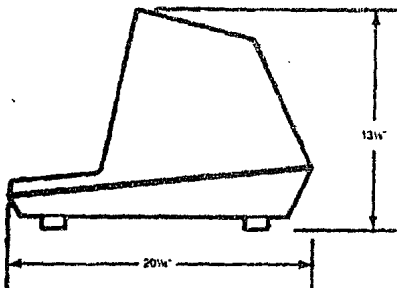

Figure 2-2 Dimensions
- Recommended ventilation clearance is 4 inches (10.2 cm) on all sides. Refer to Figure 2-2.
Two switches (located on the rear of the terminal and shown in Fig. 2-2) allow you to configure the terminal to operate according to the requirements of your computer system and printer. This section describes these switch settings.